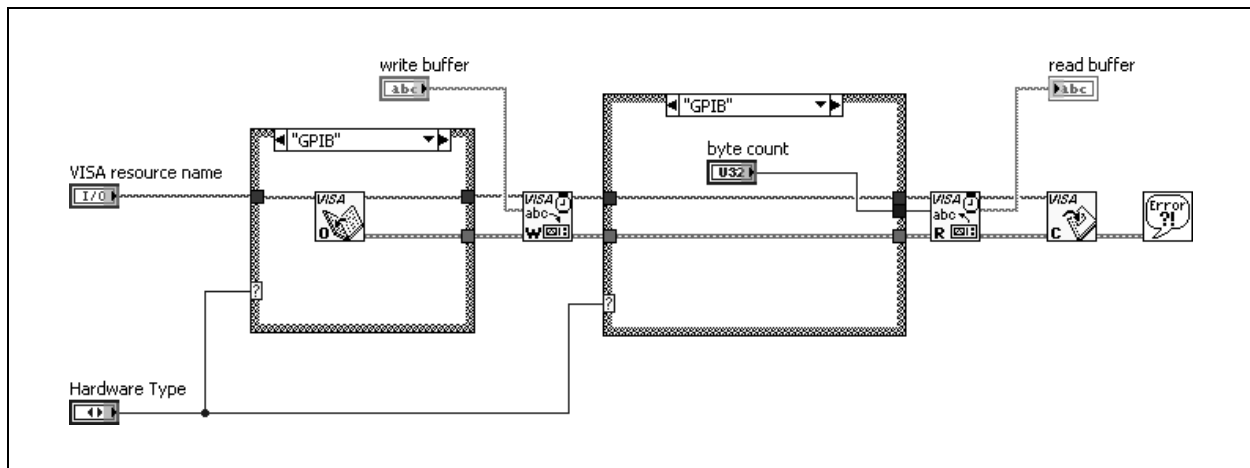

Figure 9-16. GPIB Portion of the VISA Write & Read VI Block Diagram
2. Open the block diagram of the VI and examine the code. The GPIB portion is shown in Figure 9-16.